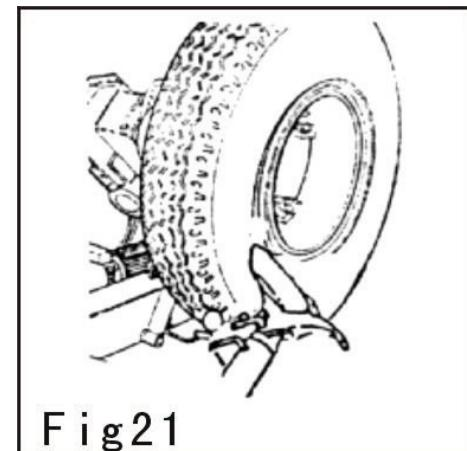

Fig 21
3) Press circular disk into the flange (as **Fig 21**)